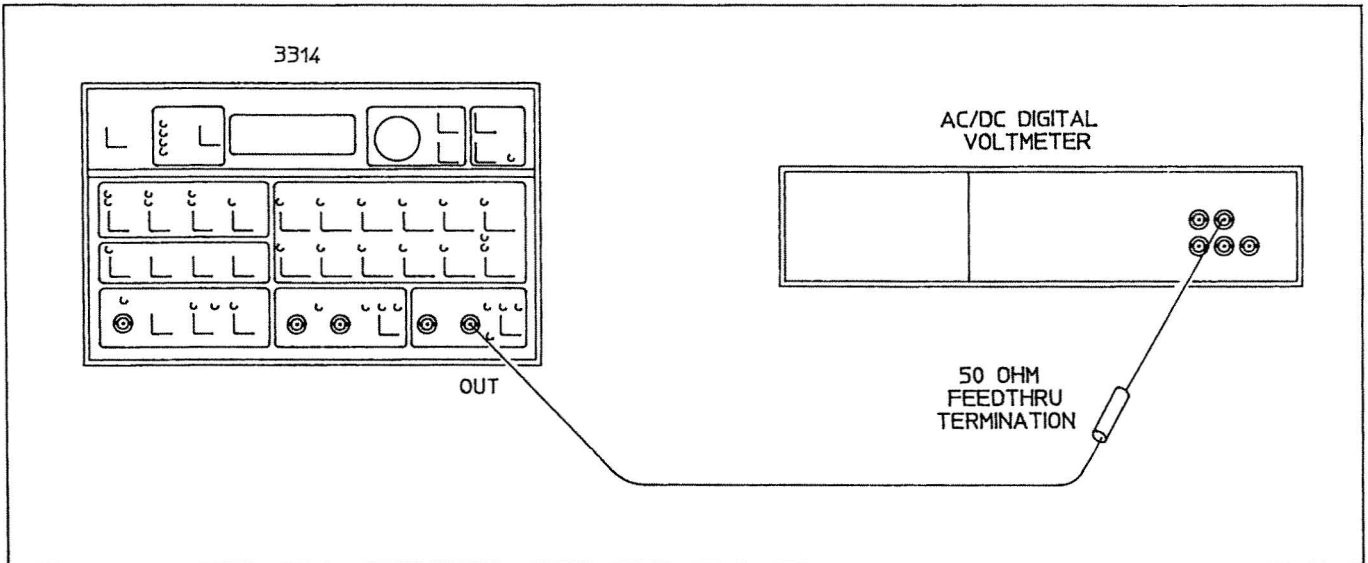

Figure 5-14. Amplitude Calibration Pad Selection.
F. Connect the 3314A to the voltmeter via the 3314A's "Function" output. (See Figure 5-14.)